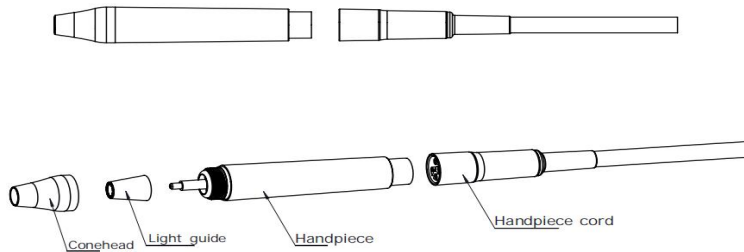
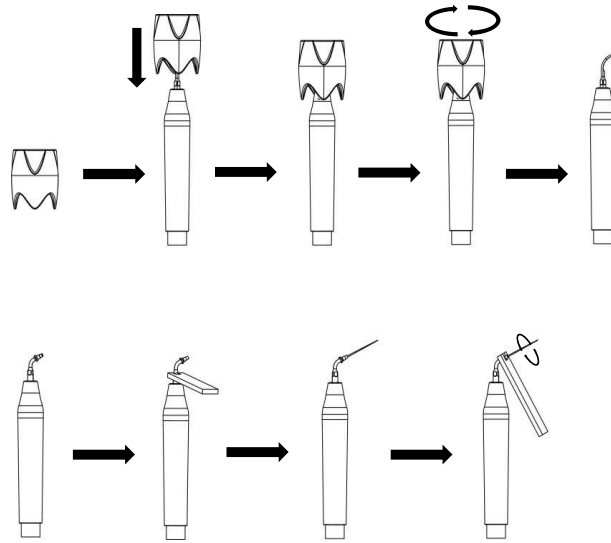

Figure 2.5
Figure 2.6
- 1) The design of torque wrench adopts a special structure, which can ensure the user can effectively load and unload the tip and protect the user's hand during use, and it can avoid be scratched by the tip when load and unload the tip(See Figure 2.6).
- 5) Fasten the tip to the handpiece with torque wrench (See Figure 2.6), and then correctly connect the handpiece with the handpiece cord socket. Before installing the handpiece, dry the connection end of the handpiece and the socket thoroughly(Figure 2.5).
- 1) Fix the holder of endo file to the handpiece with endo wrench (See Figure 2.6).